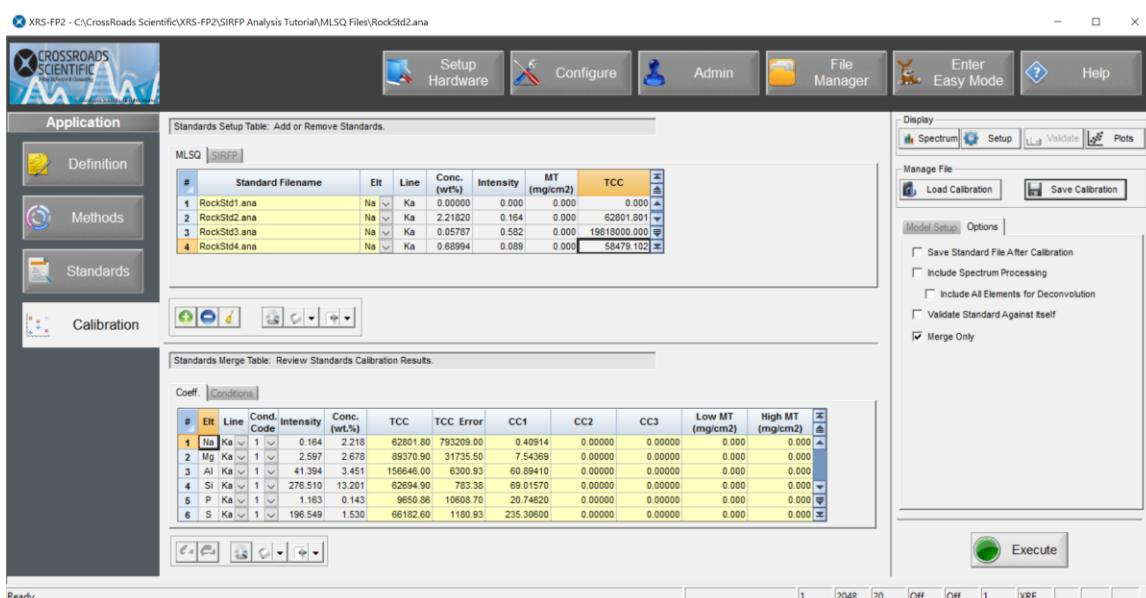

Figure 16. Application Workflow – Calibration. Add all the MLSQ standard ANA files to be used for the multipoint calibration.
22. Then go to the “MLSQ” tab and double click in the MLSQ “Standard Filename” column to load the ANA filenames to be used for the MLSQ calibration (e.g. “RockStd1.ana,” “RockStd2.ana,” etc.). See Figure 16 below.